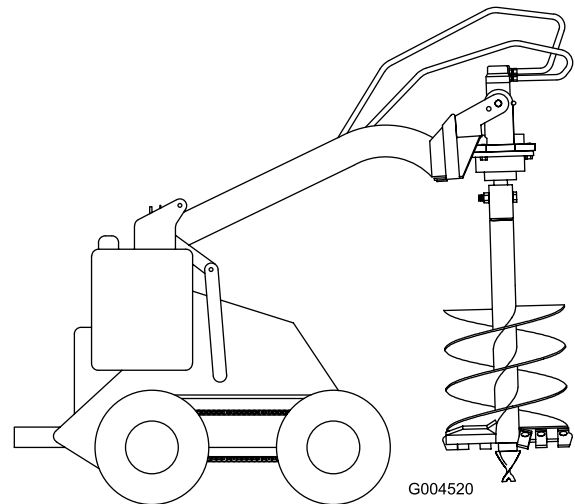

Figure 9
13. Raise the auger free of the ground (Figure 9).
- When the auger is vertical, tilt the attachment plate rearward until the drive head contacts the attachment plate to stabilize the auger and keep it from swinging freely (Figure 9).
1. Raise the auger so that it clears the ground and is vertical (Figure 9).